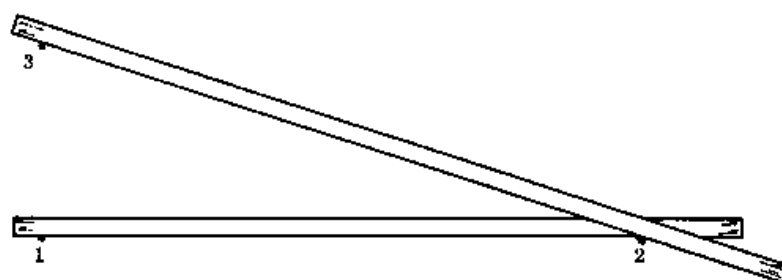

Fig. 2
d. Lay the hip tie beam against pegs 1 and 2 (Fig. 2)
e. Lay the hip rafter against pegs 2 and 3 (Fig. 2). Make sure that the tie beam and rafter are correctly positioned with respect to the pegs.